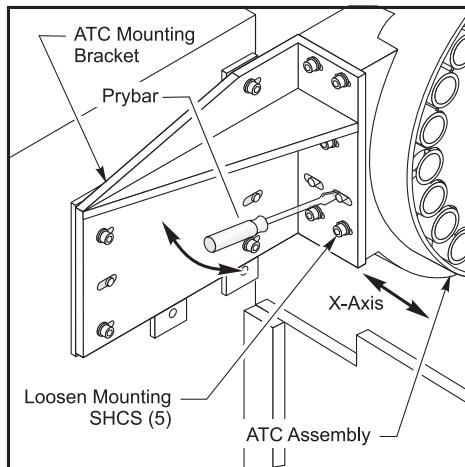

Figure 3.12-11 ATC Assembly X-axis alignment
5. If necessary, loosen the five ATC mounting SHCS. Refer to Figure 3.12-11.
6. Insert a pry-bar between the locating pins and the ATC mounting bracket. Adjust the bracket to align the split tool in the double arm to the center of the spindle in the X-axis. Refer to Figure 3.12-11.